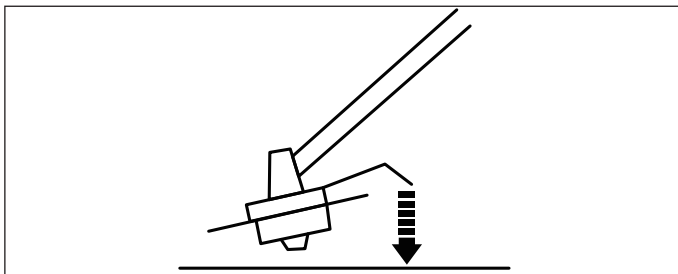

Fig. 14e
- 9). The trimmer head is equipped with a bump feed mechanism (B12) when more line is required (B11). Simply tap the bump feed on a firm surface whilst running and the spool will release the trimming line. (See Fig. 14e)